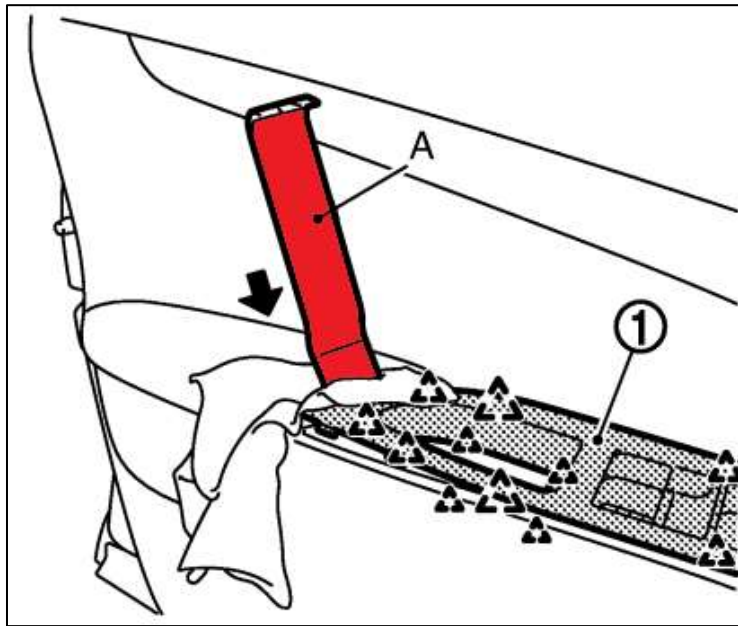

Figure 66
4. Remove the Door Control Panel with a Trim Removal Tool. *Figure 66.*